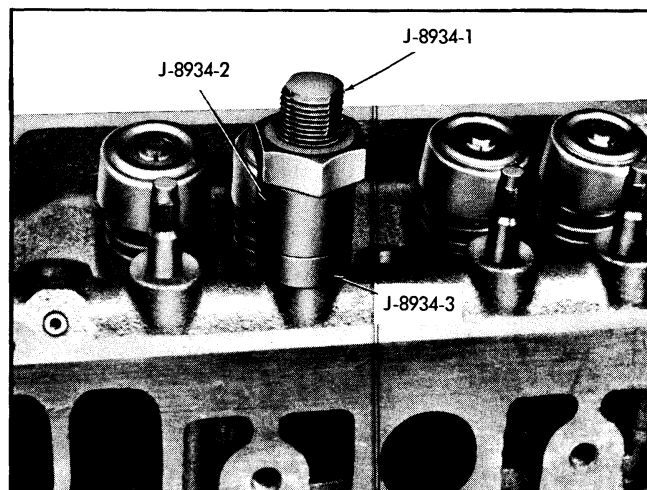

Fig. 6-33 Tool J-8934 Positioned to Remove Rocker Arm Stud
6. Thread $\frac{7}{8}$ " standard nut on stud remover and turn nut until rocker arm stud is out of cylinder head (Fig. 6-33).
12. With valve seated, slowly press rocker arm stud into cylinder head (Fig. 6-33) until gauge pro-